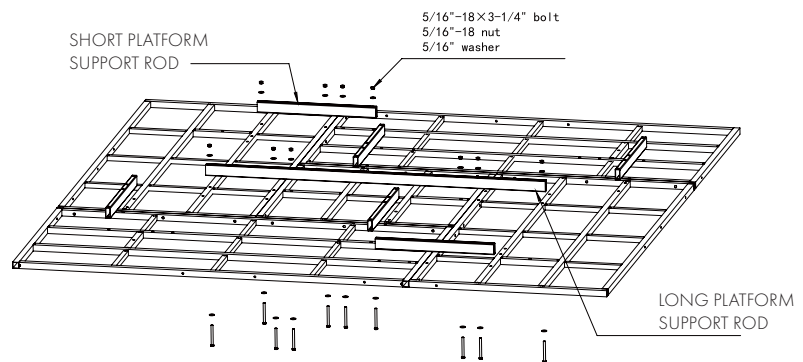

FIGURE 2
Attach the six **SHORT PLATFORM SUPPORT RODS (#3)** and the one **LONG PLATFORM SUPPORT ROD (#4)** to the assembled platform by using (30) 5/16"-18 x 3-1/4" bolts, (30) 5/16" lock nuts and (60) 5/16" flat washers (Figure 2). **Tighten all nuts and bolts from steps 1 and 2.**